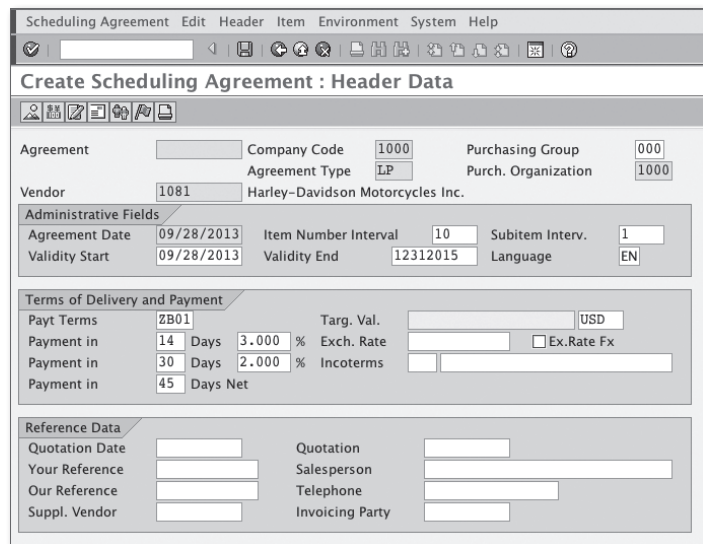

Figure 4.19 Entering the Validity Date for the Contract Target Value
2. Enter the header data, such as the contract's VALIDITY END date and the maximum contract value, if applicable. The header copies information from the vendor about the terms of payment and cash discounts, which you can edit if they don't apply for the contract (see Figure 4.19).